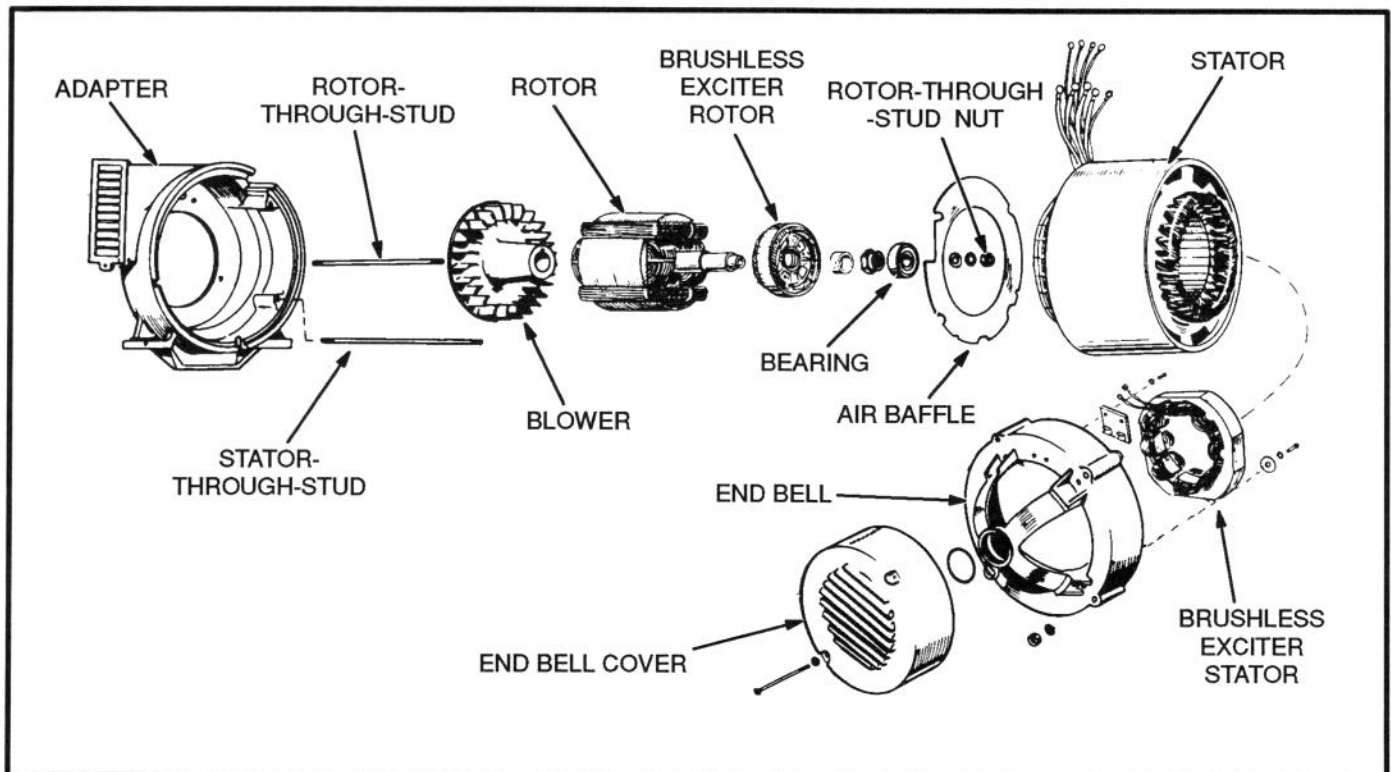

FIGURE 5-14. GENERATOR ASSEMBLY
7. Remove stator-through-stud nuts, end bell, and stator assembly (Figure 5-14). Screw-driver slots in adapter provide a means for prying stator loose from the adapter. Be careful not to let stator touch or drag on rotor.